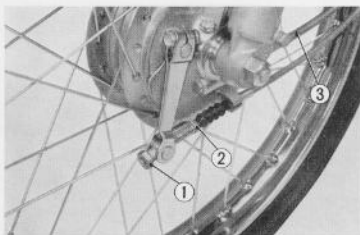

Fig. 4.83 Removing cables
2. Remove the front brake adjusting nut ① and disengage the brake cable ② from the front brake arm. (Fig. 4.83)
3. Disconnect the speedometer cable ③ from the front brake panel. (Fig. 4.83)